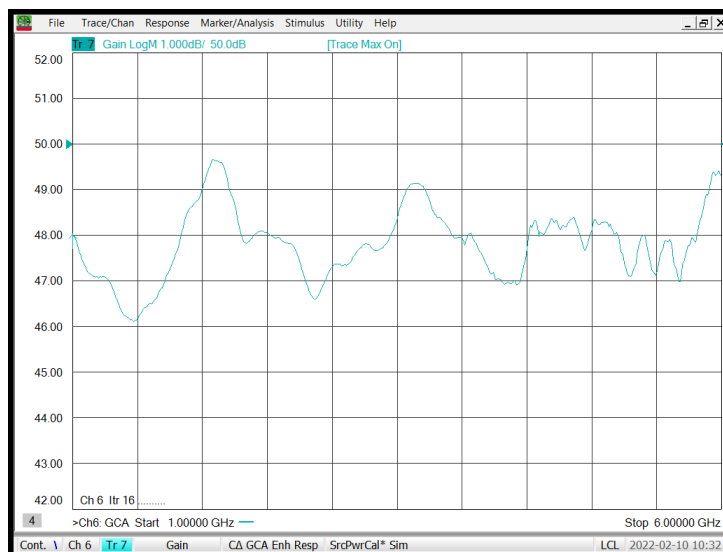
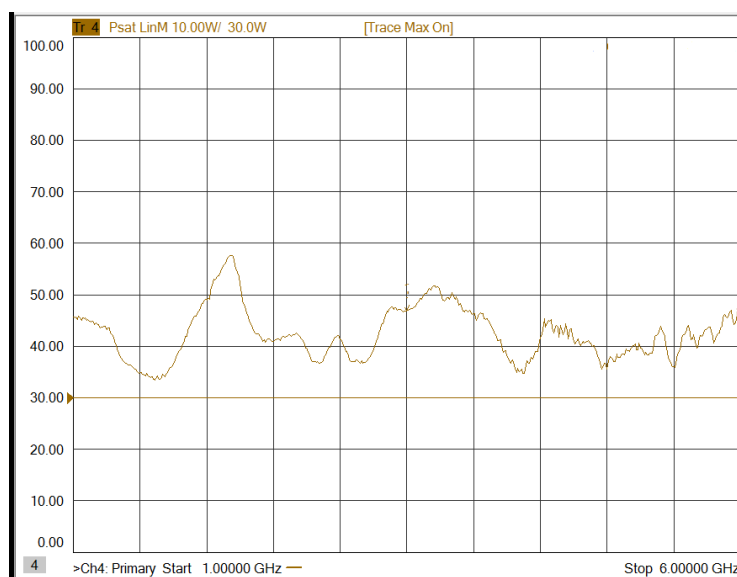

Figure 4-1. Typical Response at -20 dBm Input
Figure 4-2. Typical Response at 0 dBm Input
1. The Model 30S1G6C's typical gain response at -20 dBm input and 0 dBm input is shown in Figure 4-1 and Figure 4-2. The actual gain may vary considerably from that shown in these Figures but should be ≥ 45 dB at -20dBm input. At 0dBm input, the overall power output should be greater than 30W.